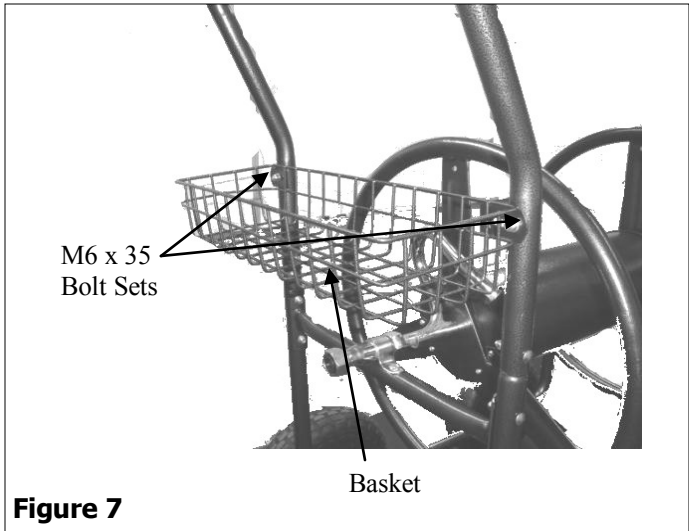

Figure 7
7 Attach Basket to Handle using (2) M6 x 35 Bolt Sets. See Figure 7